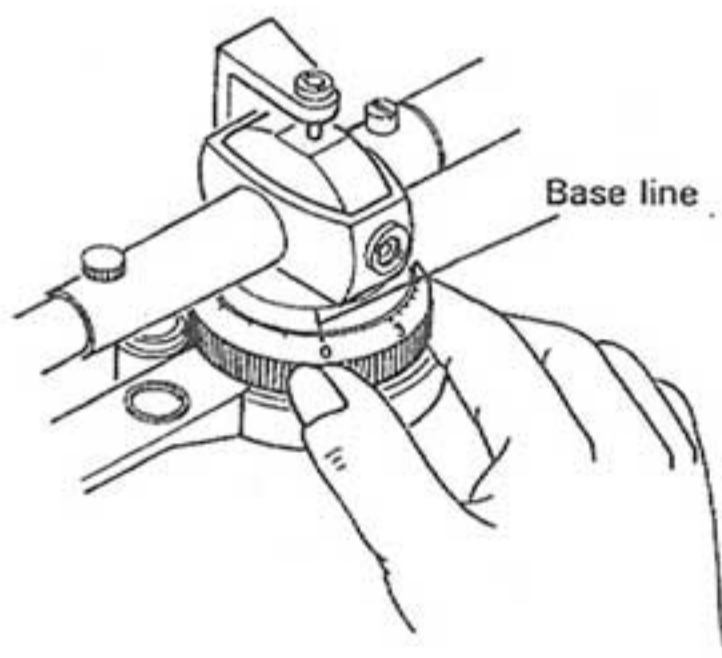

Fig. 14
1. Turn the anti-skating dial until "0" is aligned with the base line. (Fig. 14)